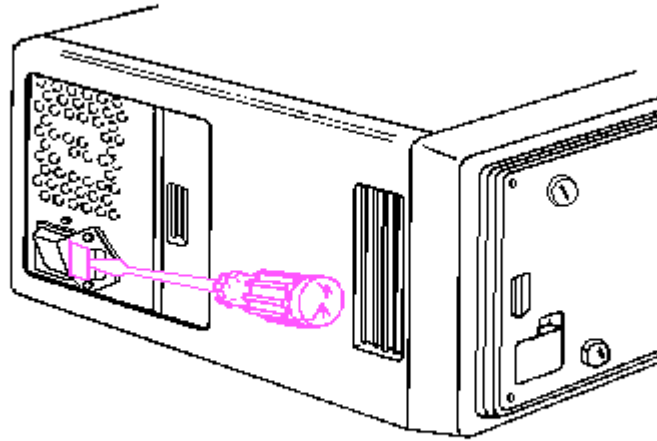

Figure 7-4. Removing the AC Power Fuse
3. Insert a flat bladed screwdriver along the bottom edge of the fuse box. Lift outward with enough pressure to force the fuse box out of the casing (Figure 7-4).